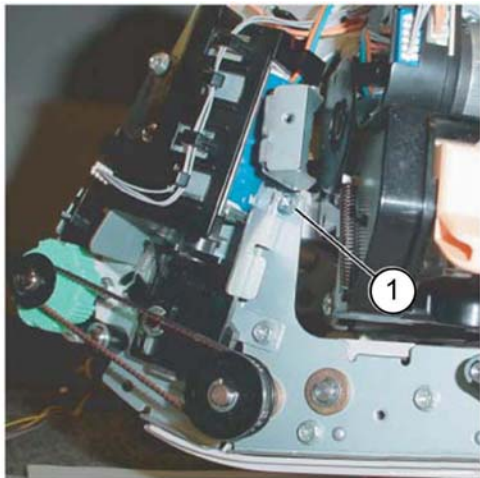

Figure 5 Front screw removal
11. Remove the front self-tapping screw (1), Figure 5.